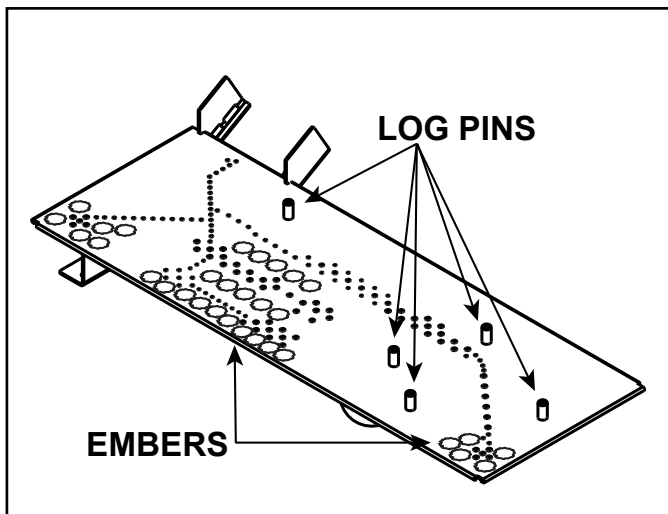
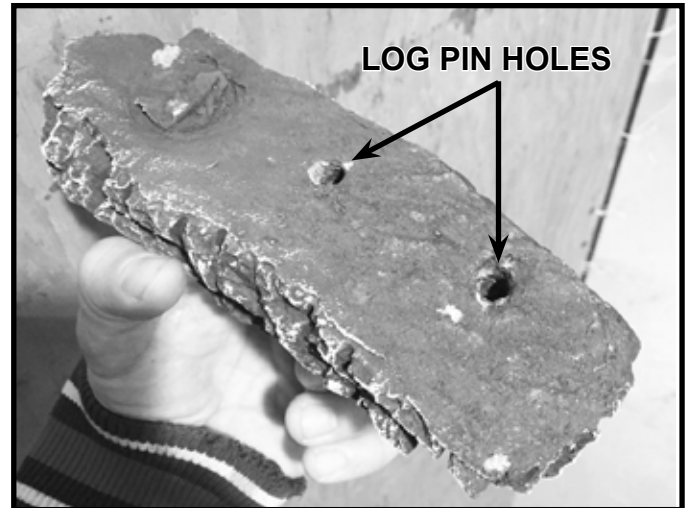

Figure 1. Log Pin and Glowing Ember Locations - SL-7BV
Figure 2. Log Pin Holes
There are four log pins installed on the burner top. These pins are used to position the two rear logs and the burner log. See Figure 1 for log pin locations.
- The rear left log, rear right log and small burner log utilize holes in the bottom side of the logs that correspond to the log locating pins on the burner. Reference Figure 1 and Figure 2.
3. Remove Glowing Embers® from packaging and install the ember material as shown in Figure 1. Care should be taken to avoid placing ember material directly over ports and to avoid using excessive amounts of ember material.